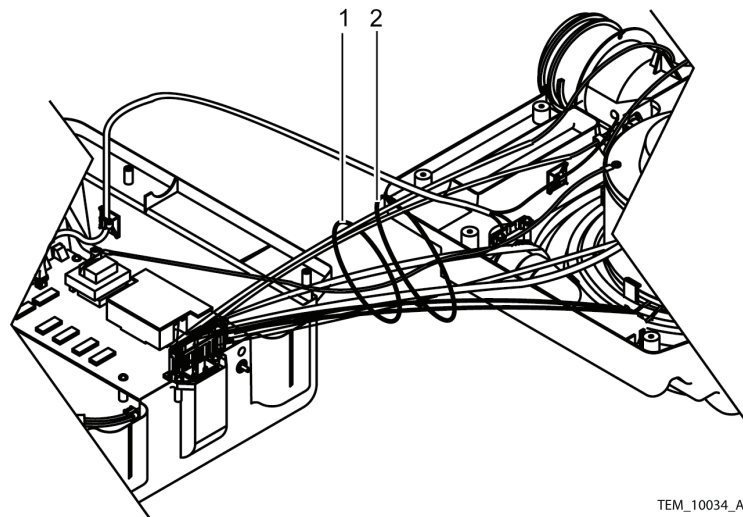

Figure 52. Cable Harness Bundle Ties
25. Install the cable harness bundle ties. See Figure 52, items 1 and 2.